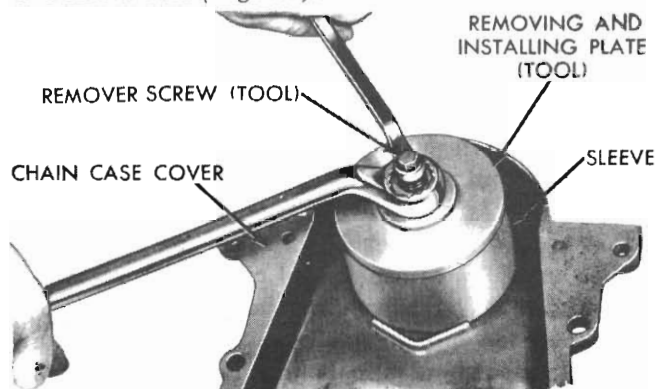

Fig. 21 - Removing oil seal (Tool E9C57A)
(4) Place flat washer and nut on remover screw. Hold tool centre screw and tighten tool lock nut to remove seal (Fig. 21).